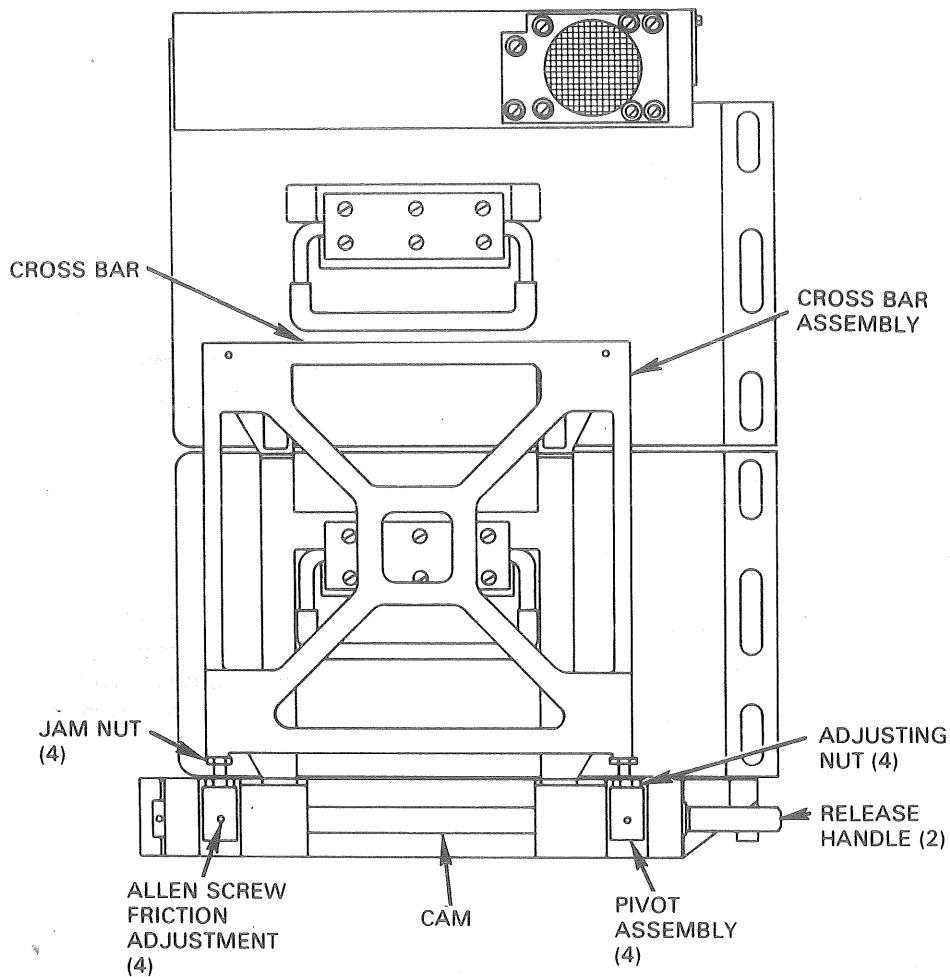

Figure 1. Radio Set AN/GRC-106(*) typical installation mounting details.
1. Position AN/GRC-106(*) in Mount MT-3140/GRC-106 securely. (Refer to fig 1, and TM 11-5820-520-12, para 2-5.)